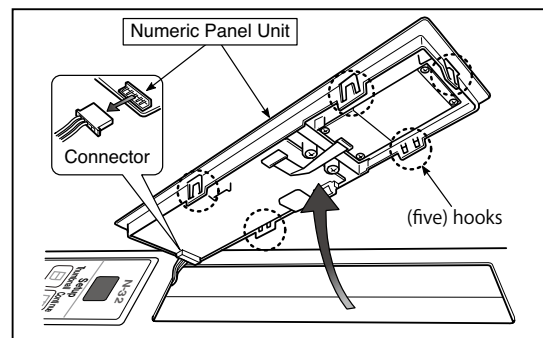

Fig.14
7) Remove the Back Panel Unit. (See Fig. 14)
7) Remove the Numeric Panel. (See Fig. 14)
1. Push the (five) hooks of the resin shown in Figure 14 and remove the Numeric Panel Unit on the front side.